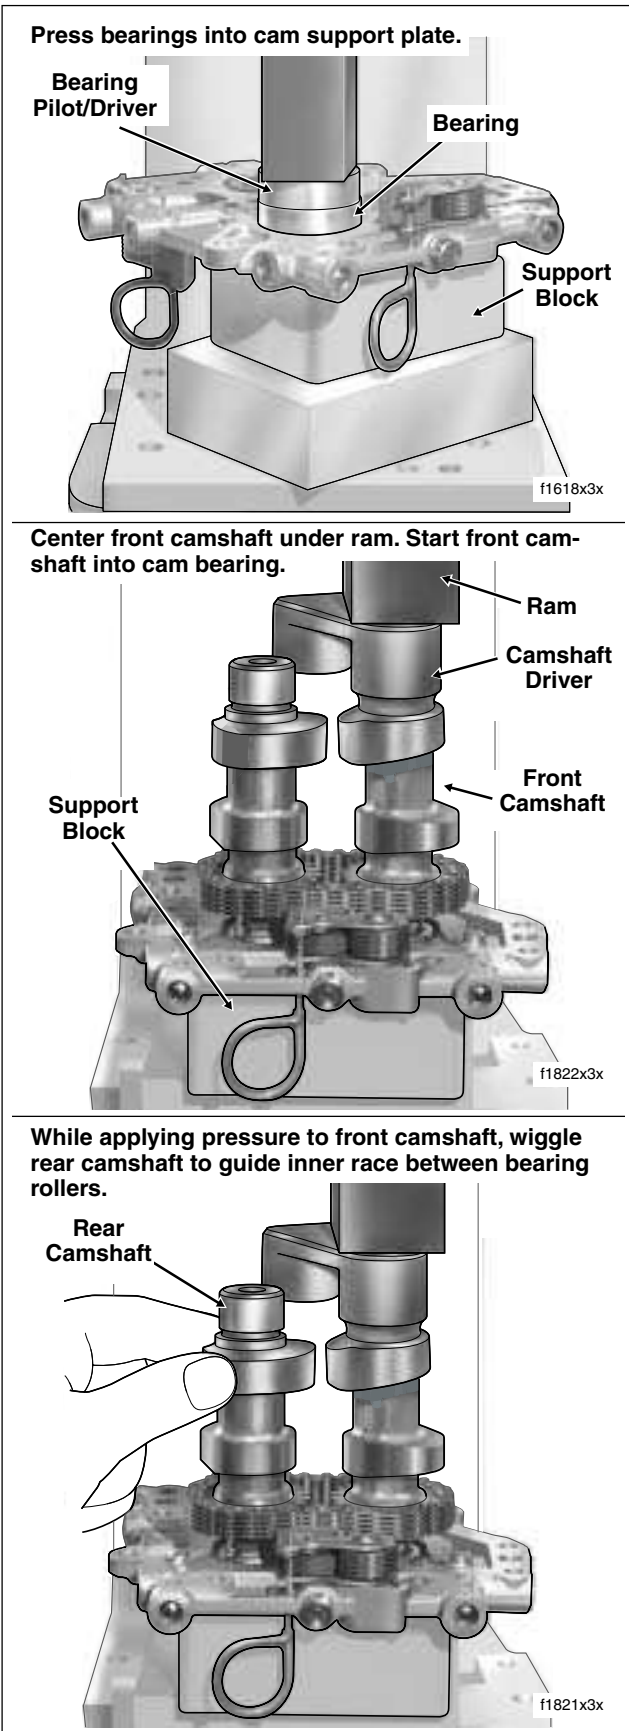

Figure 3-112. Install Cam Bearings/Camshafts
6. Center bearing driver under ram of arbor press. Press on driver until bearing makes firm contact with counter-bore in cam support plate. See upper frame of Figure 3-112. Repeat steps to install second bearing.
- Center end of front camshaft under ram and **slowly** apply pressure to driver just to **start** front camshaft into bearing ID. See center frame of Figure 3-112.
- Slowly apply pressure to driver on front camshaft, while wiggling rear camshaft as necessary to guide inner race between bearing rollers. See lower frame of Figure 3-112.